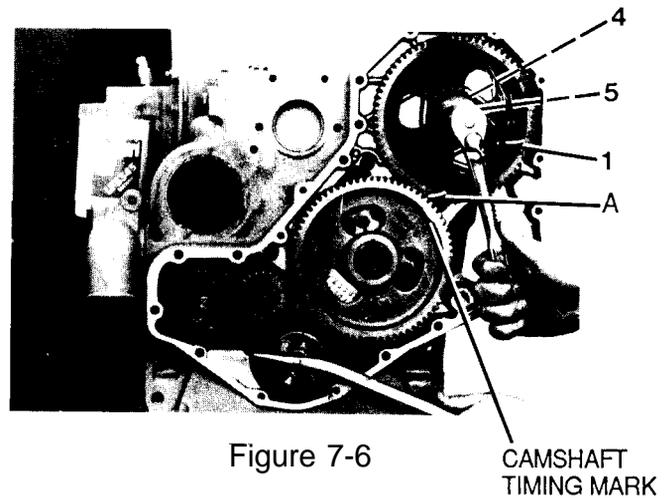

Figure 7-6
7. Install injection pump drive gear (1, Figure 7-6) onto driveshaft, aligning keyway in injection pump drive gear with key in shaft and aligning letter A on injection pump drive gear with timing mark on camshaft gear.
8. Using 22 mm wrench, install lockwasher (5) and nut (4).
9. Torque nut (4) to 11 to 15 lb-ft (15 to 20 N•m).